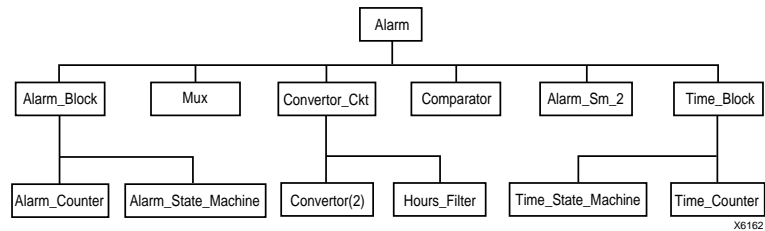

Figure 4-22 Digital Display Alarm Clock Design Hierarchy
- The Alarm design example is a digital display alarm clock consisting of six blocks, as shown in Figure 4-21. There are three levels of hierarchy in this design, as shown in Figure 4-22.